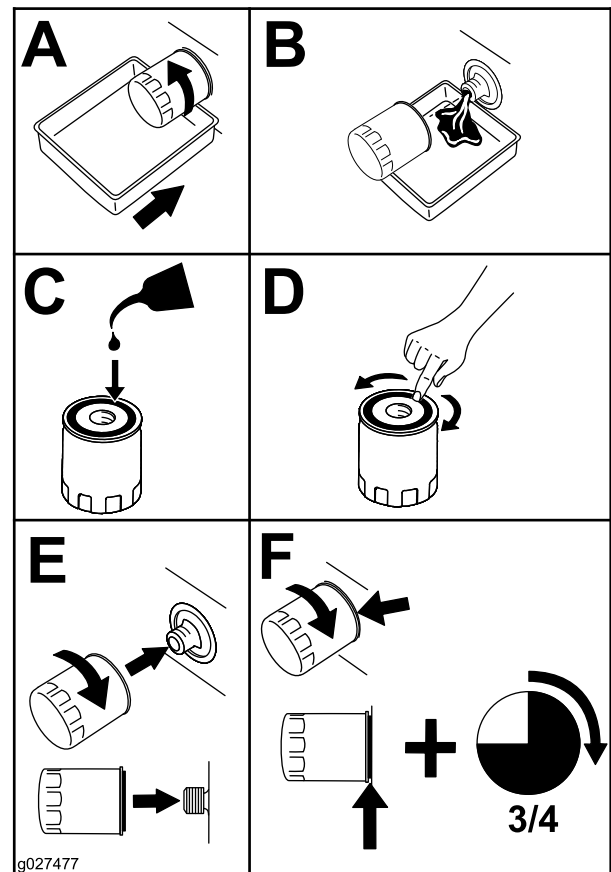

Figure 52
3. Replace the filter as shown in Figure 52.